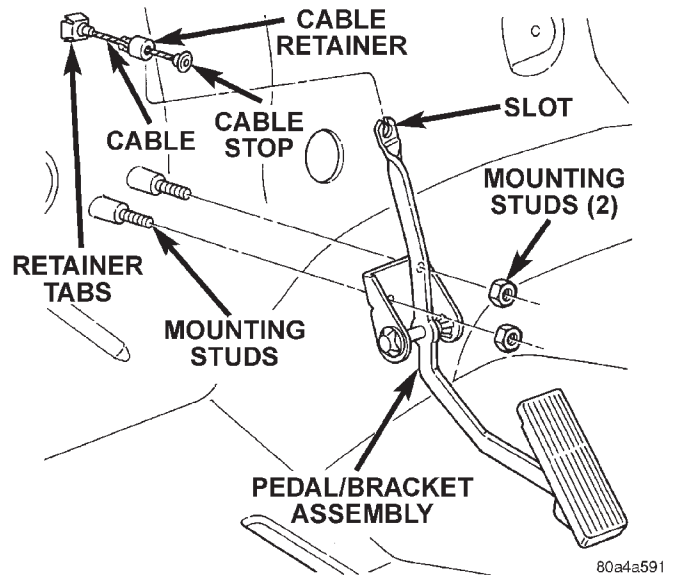

Fig. 38 Accelerator Pedal Mounting
The accelerator pedal is connected to the throttle body linkage by the throttle cable. The cable is protected by a plastic sheathing and is connected to the throttle body linkage by a ball socket. It is connected to the upper part of the accelerator pedal arm by a plastic retainer (clip) (Fig. 38). This retainer (clip) snaps into the top of the accelerator pedal arm. Retainer tabs (built into the cable sheathing) (Fig. 38) fasten the cable to the dash panel.
- (1) From inside vehicle, hold up accelerator pedal. Remove plastic cable retainer (clip) and throttle cable core wire from upper end of accelerator pedal arm (Fig. 38). Plastic cable retainer (clip) snaps into pedal arm.
- (2) Remove accelerator pedal mounting bracket nuts.
- (3) Remove accelerator pedal assembly.
- (2) Remove cable core wire at pedal arm.
- (3) From inside vehicle, pinch both sides of cable housing retainer tabs (Fig. 38) at dash panel. Remove cable housing from dash panel and pull into engine compartment.